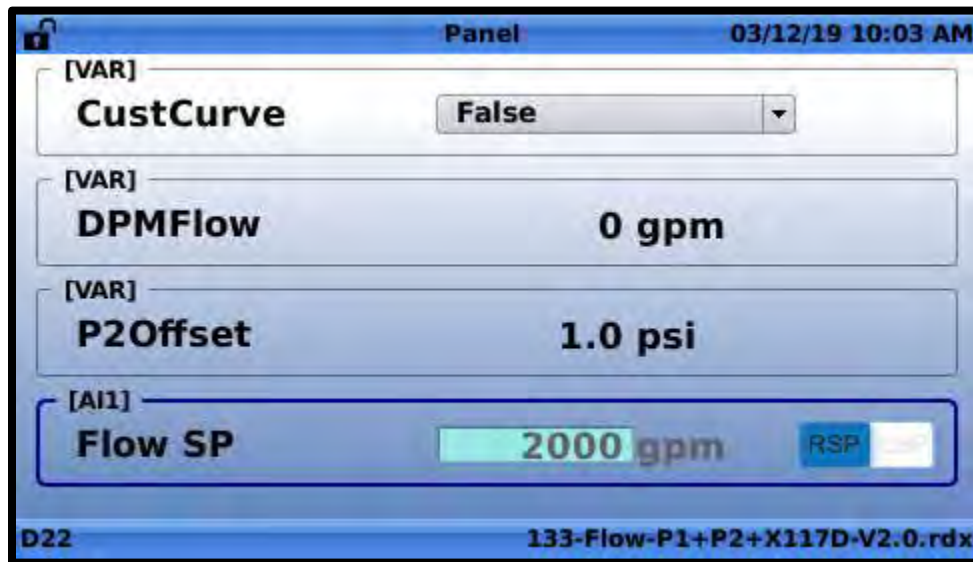

Figure 8.4
2. Use the up and down navigation buttons to highlight the input to be changed as shown in **FIGURE 8.4**.